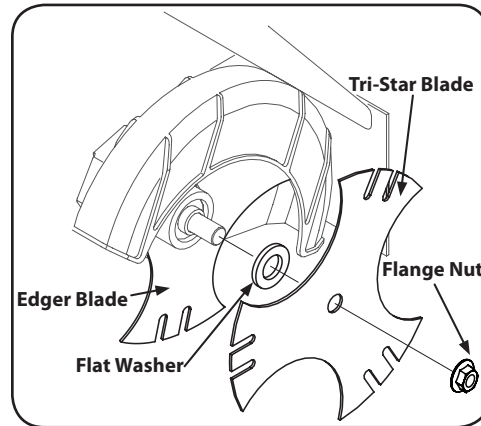

Figure 4-6
1. Use two wrenches (one wrench to prevent the hex bolt head from spinning and the other to unthread the flange nut) to remove the flange nut that secures the edger blade, leaving the edger blade in place. See Figure 4-6.
2. Install the additional edger blade supplied with your machine and the flat washer. See Figure 4-6.